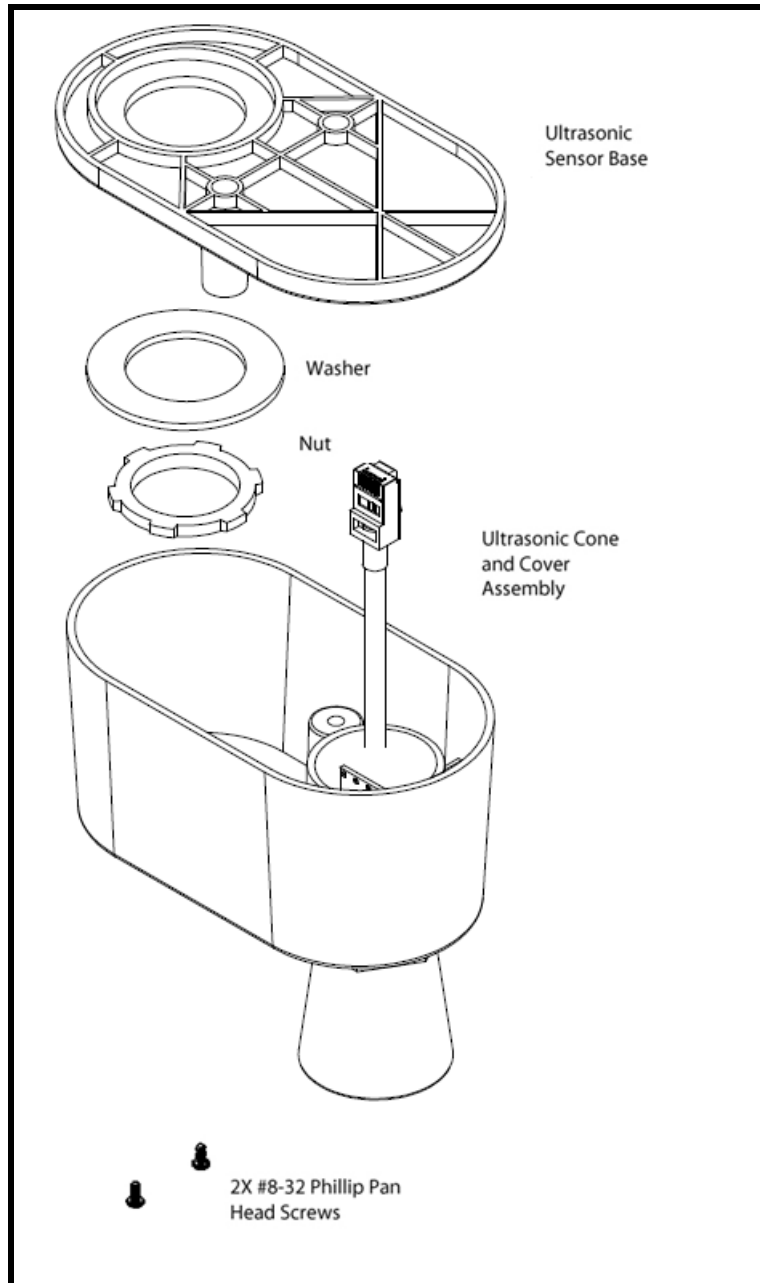

Figure 4 - Ultrasonic Sensor Assembly Components
8. Install the Ultrasonic Sensor Cover with the cone on the opposite side of the Nut & Washer. See **Figure 4** for orientation.